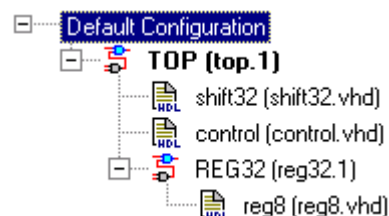

Figure 23 - Design hierarchy for TOP
- When completed, the hierarchy of the shifter design will appear as shown in Figure 23 on the Libero IDE Design Hierarchy tab. If TOP is not in bold font, set it as root by highlighting, right mouse clicking and selecting **Set as Root**.